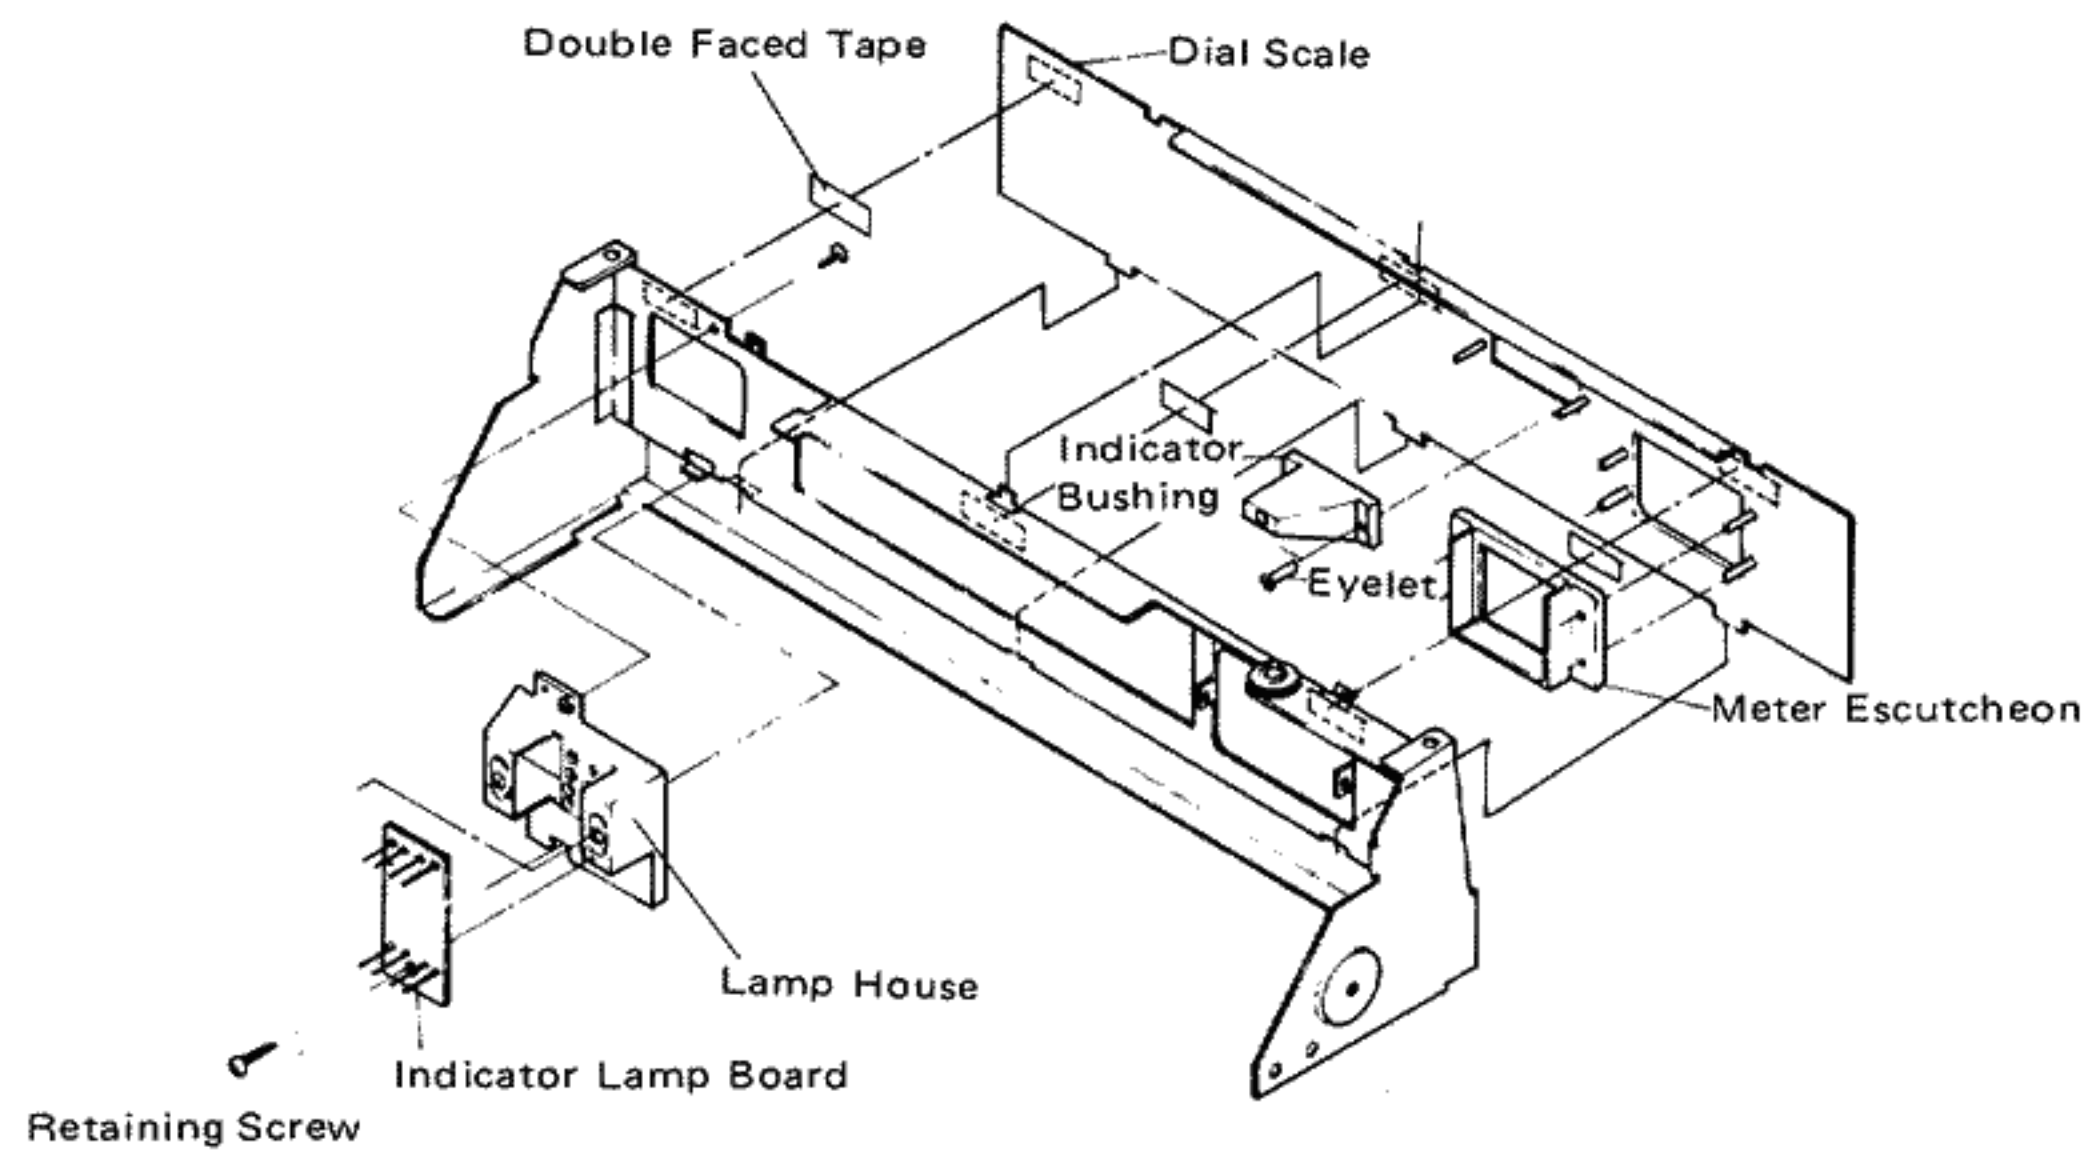

Fig. 5
- 3. To replace Dial Scale, refer to Fig. 5.